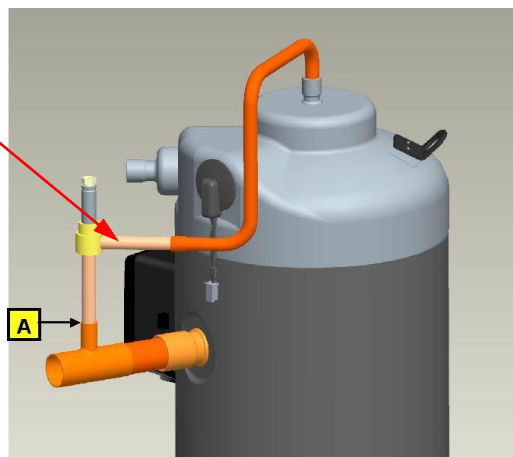
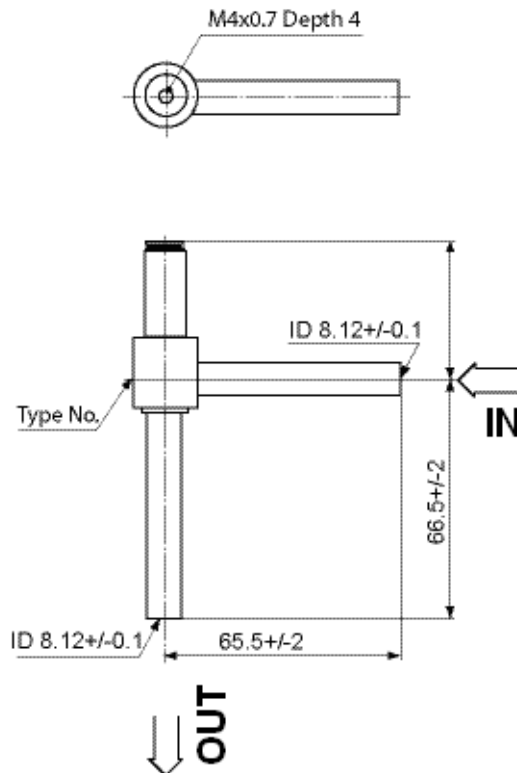

Figure 10: Recommended piping
Figure 11: Control valve without coil
- The valve operation is directional. See **Figures 11 & 12** below for inlet and outlet locations.
The tube from the solenoid to the suction, marked "A" (see **Figure 10**), should be as short as possible (less than 7.5 cm). Dimensions for a typical tube going from the top of the compressor are shown in **Figures 11 & 12**.